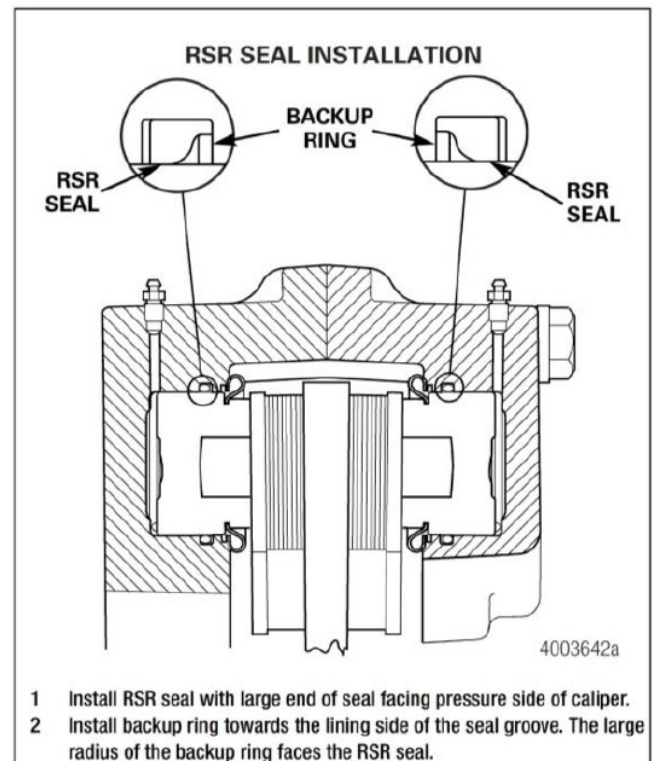

Figure 5.2
- If the brake is equipped with rubber spring return (RSR) seals: Refer to Figure 5.2.